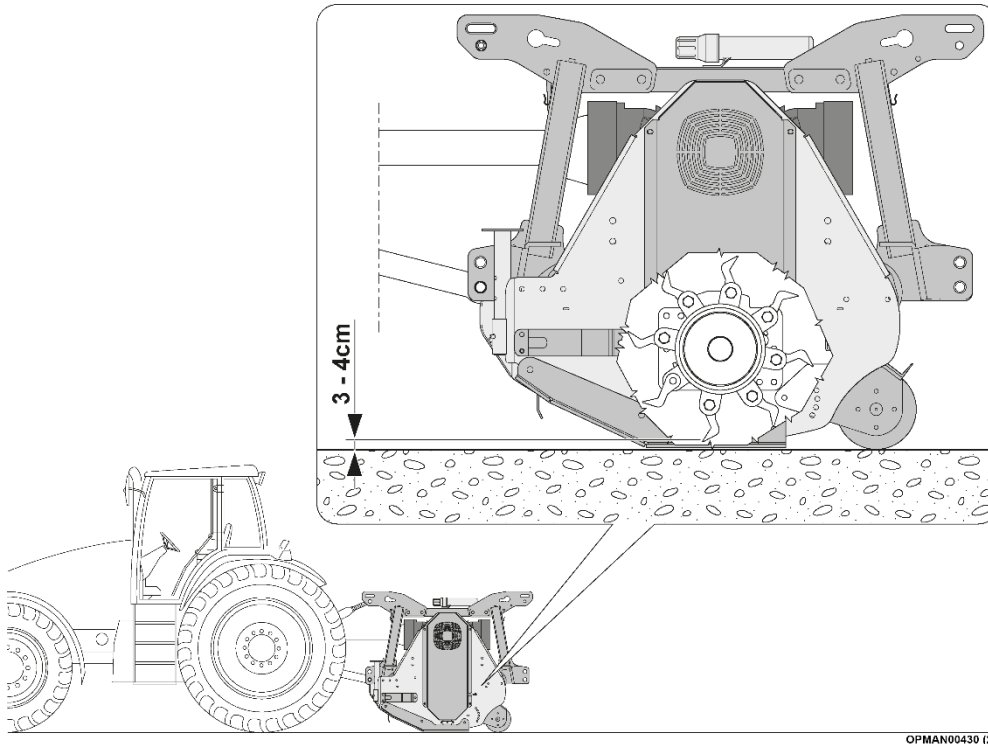

Figure 11
- Adjust the working height so that the flails are at about 3 - 4 cm from the ground (Figure 11).